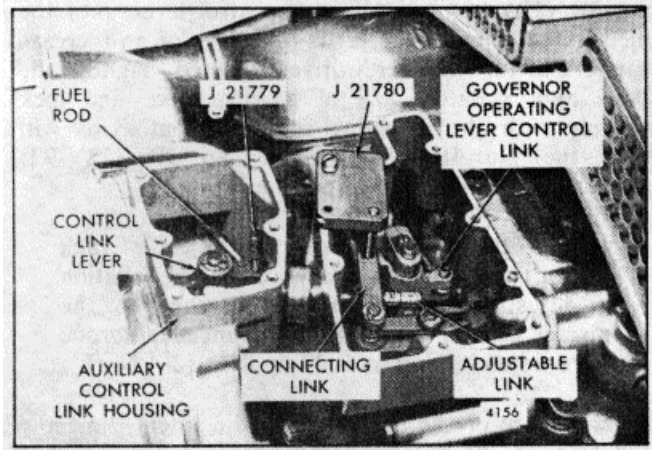

Fig. 9. - Control Link Levers In Position
If the engine or governor has been overhauled, or the injector control linkage has been disturbed, the control link levers in the governor housing and auxiliary control link housing must be aligned before proceeding with the engine tune-up. Refer to Fig. 9 and position the control link levers as follows:
6. Remove the connecting pin from the control link lever in the governor housing and install gage J 21780. Install the gage so the pin extends through the connecting link, control lever and fuel rod and the governor housing dowel pin extends into the small hole in the gage. Then, install a governor cover bolt to lock the gage in place (Fig. 9). With gage J 21780 in place, the governor control link lever will be in the mid-travel position and parallel to the auxiliary control link lever.